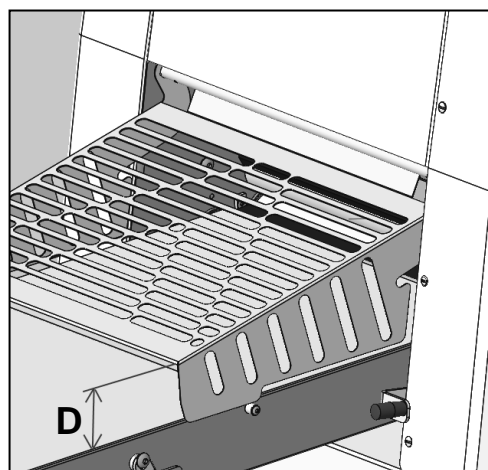

Fig. 4.9
- the micro-switch intervenes by stopping each element when the distance  $D$  between the end of the guard and the belt below (see Fig. 4.9) exceeds the  $D_{max}$  value 70mm;